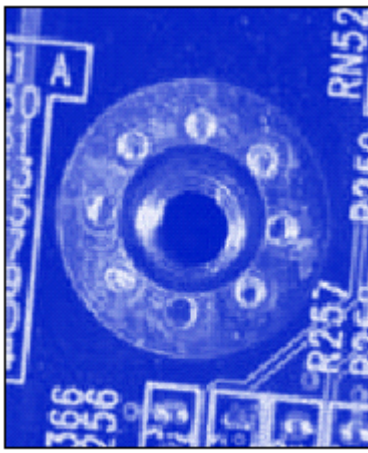

Figure 3
- (10) In order to work out correctly where these should go, locate on your motherboard all the screw holes as shown in Figure 3. Use the motherboard as a guide to the correct place for the standoffs to go. If need be put the motherboard into your case and once you can see where each locating hole is remove it again and fit a standoff at each location. Badly positioned standoffs can short and damage your bundle so it is best to double check.